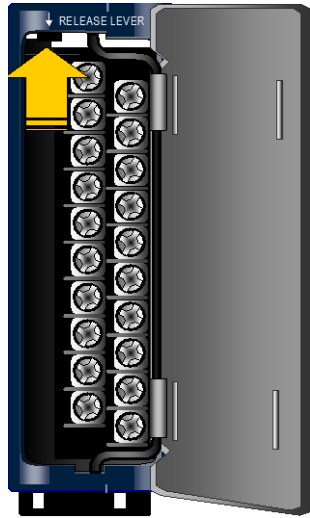

Figure 31: Release Lever Usage prior to Removal from I/O The module
2. Push up the release lever (Figure 31) to unlock the terminal block.